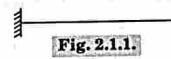

Fig. 2.1.1.
1. **Cantilever Beam :** A beam which is fixed at one end and free at the other end is known as cantilever beam. Such beam is shown in Fig. 2.1.1.